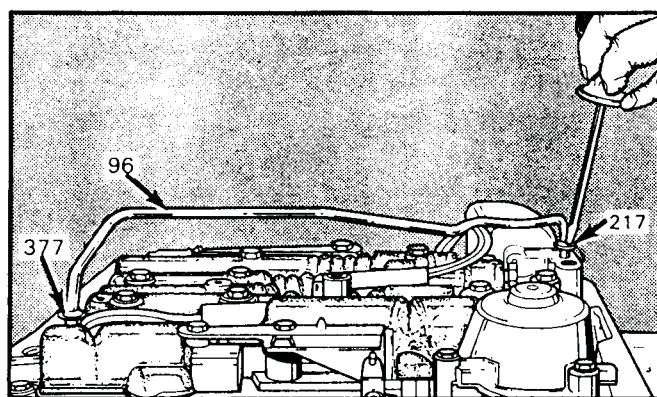

Figure 194
23. Install the forward clutch feed pipe into auxiliary valve body first, and then into the pump bore (Figure 194).
24. Using a screwdriver on the rib of the tube, lightly tap the tube in place, as shown in Figure 194.